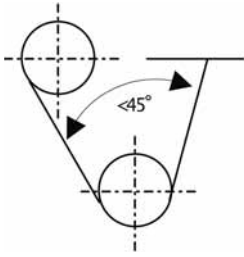

Figure 1 – Rope angle
- The rope angle should not exceed 45 degrees (see figure 1).